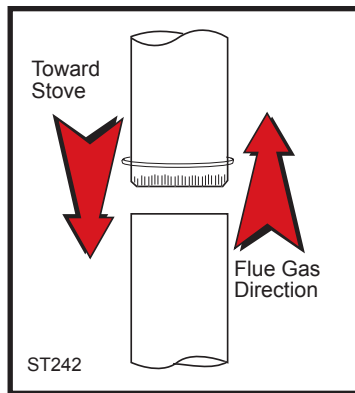
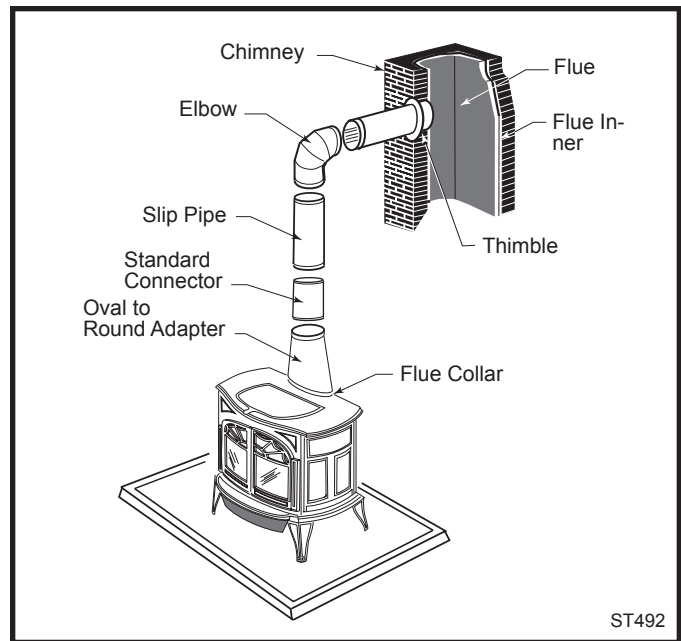

Fig. 4 Chimney connector.
Fig. 5 An exploded view of the chimney connection in a free-standing masonry installation.
- the first crimped end into the stove's flue collar, and keep each crimped end pointing toward the stove. (Fig. 4) Using the holes in the flue collar as guides, drill 1/8" (3 mm) holes in the bottom of the first section of chimney connector and secure it to the flue collar with three #10 x 1/2" sheet metal screws. Lift off the griddle, and shield the stove's surface between the griddle opening and the front of the flue collar to protect the finish when you drill the front hole.
- Fasten each joint between sections of chimney connector, including telescoping joints, with at least three (3) sheet metal screws. The pre-drilled holes in the top of each section of chimney connector serve as guides when you drill 1/8" (3 mm) holes in the bottom of the next section.
- Fasten the chimney connector to the chimney. Instructions for various installations follow. Figure 5 illustrates the general layout of chimney connector parts.